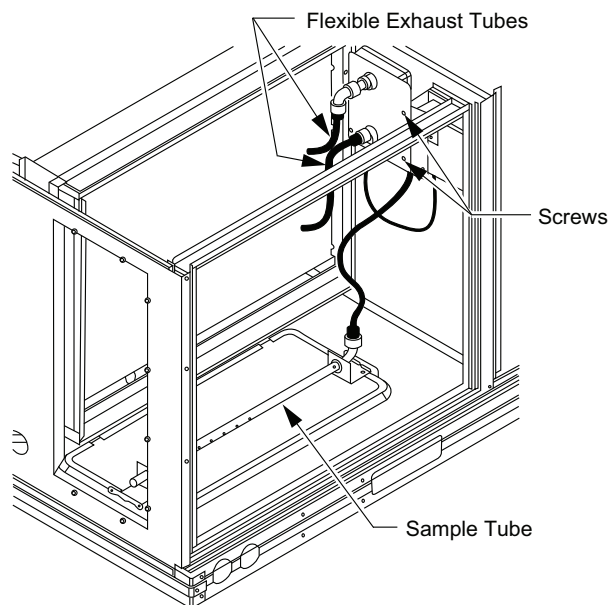

Fig. 57 — Return Air Smoke Detector Shipping Position
1. Unscrew the two screws holding the return air sensor detector plate. See Fig. 57. Save the screws.